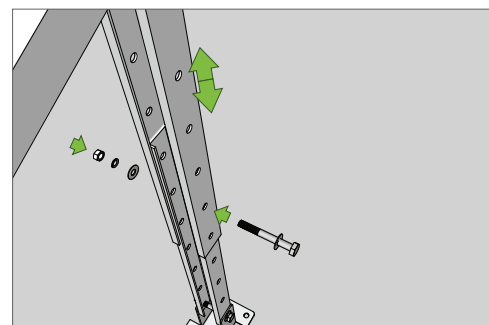

Fig 2
- Adjust stand angle to desired position by lifting the back of the side section causing the back leg section to telescope. Once at the desired angle and the bolt holes align, fix into position using the supplied bolt, washers and nut as shown in Fig 2